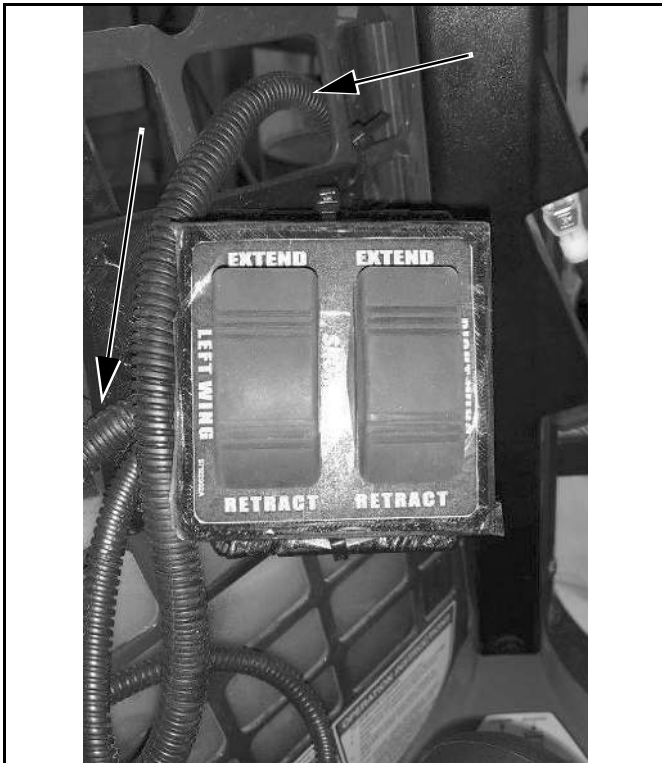

Figure 27
2. Route harness through opening in side window and connect to back of Plow Control Box. (See Figure 27) (29R Skid Steer Control Shown)